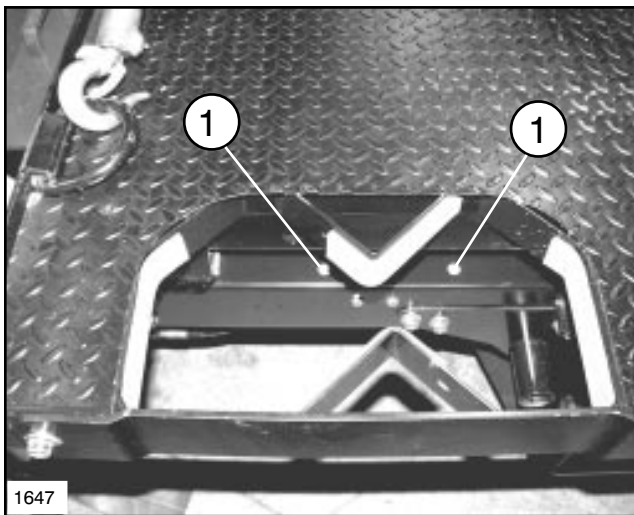

FIG. 7
3. Mount (99-0476) Bottle Tray to the Workman® unit using two 3/8"-16 x 1" Lg. Flange Lock Hex. Hd. Cap Screws. Insert screws through the two holes in the top of Bottle Tray and into existing inserts in the Workman® unit's Rear Channel. See FIG. 7. Tighten screws securely.